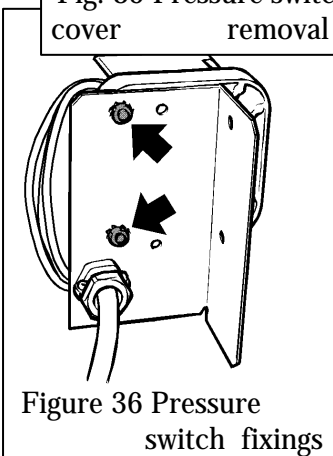

Figure 36 Pressure switch fixings
**13.11.2** Detach the pressure switch from the control bracket by removing two screws, nuts and shakeproof washers (see figure 36).